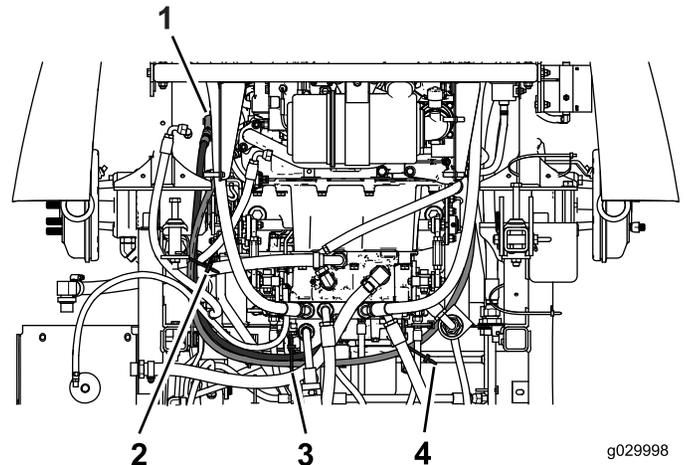

Figure 19
- 7. Secure the hydraulic hoses with the cable ties (Figure 19).